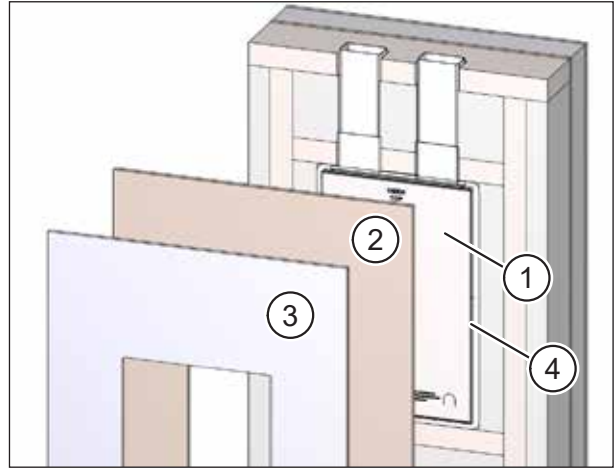

Fig. 60: Cladding the installation kit and flat ductwork / flexible pipes on the inside
- ▶ Make sure that the plaster cover (item 1 in Fig. 60) is seated in the wall box.
- ▶ Make a cutout with the same dimensions as the plastering trim (item 4 in Fig. 60) in the OSB board (item 2 in Fig. 60) and the plasterboard (item 3 in Fig. 60).